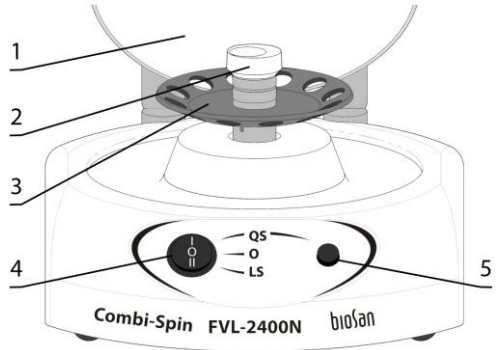

Figure 2. FVL-2400N
5.3.2 **Operation in the quick centrifugation mode.** Open the lid (fig. 2/1). Insert tubes in the rotor sockets, maintaining balance. Close the lid. Switch the power switch (fig. 2/4) into position **I** (**QS**, quick spin). Press and hold the **QS** key (fig. 2/5) for quick mixing. After releasing the key, the rotor stops automatically. Switch the power switch into position **O** (off), wait until the rotor stops, open lid and remove the tubes.
5.3.3 **Operation in the vortexing mode.** Empty the rotor and close the lid. Switch the power switch into position **I**. While gently holding the tube, press the bottom part of the tube in the vortex head cavity (fig. 2/2). Press and hold the **QS** key for vortexing. After releasing the key, the rotor stops automatically. Switch the power switch into position **O**.